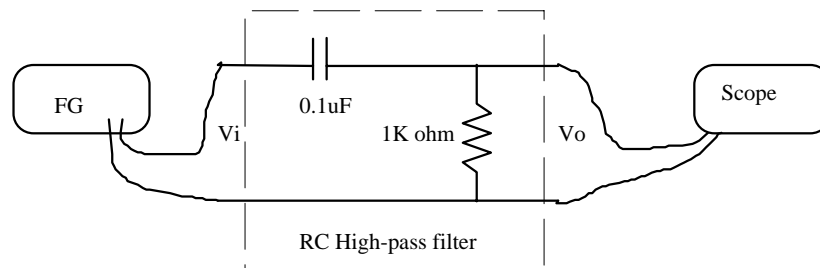

Figure 3 High-pass filter
4. Construct the single-stage RC High-pass filter circuit shown in Figure 3, and verify (using the voltage division formula) that V_o/V_i for this circuit is as follows: